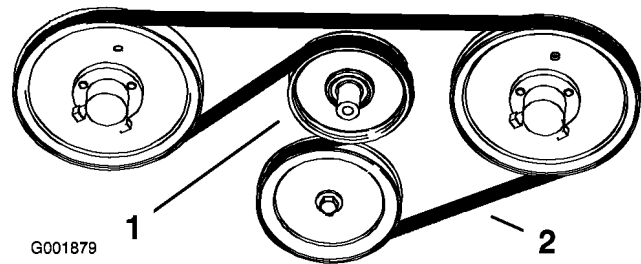

Figure 66
2. Pull the spring loaded idler down and remove the traction belt from the engine and hydro pump pulleys (Figure 66). Remove the belt between the pulleys.
3. Install the new belt around the engine and hydro pump pulleys (Figure 66).
4. Pull the spring loaded idler down and align it below the traction belt. Release the pressure on the spring loaded idler (Figure 66).